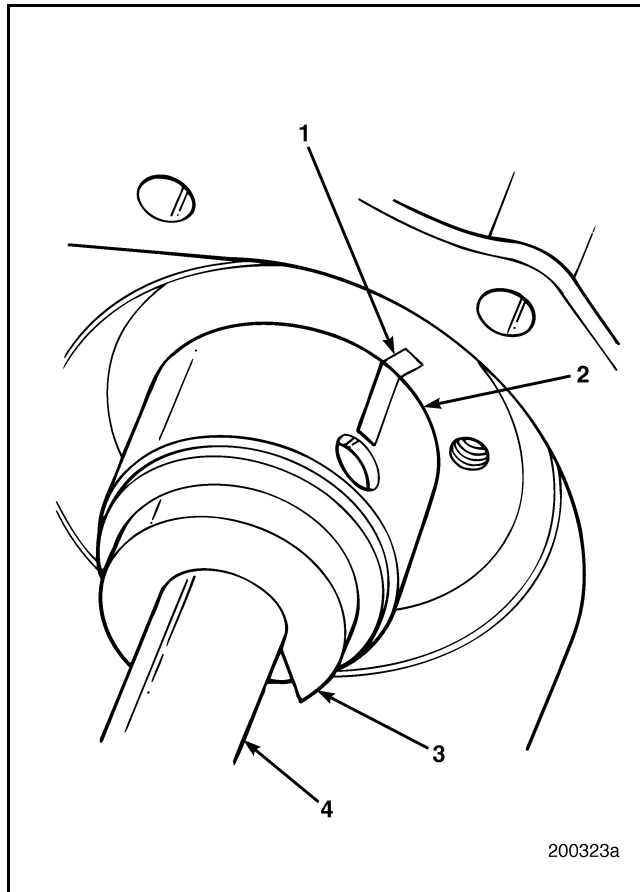

Figure 143 — Auxiliary Shaft Bushing Alignment
2. Using a dark-colored felt-tip marker, mark the block and the bushing with a line (1) to facilitate correct alignment during installation. Refer to Figure 143.
3. Position the replacement bushing (2) against the front face of the block at the front bushing bore. Align the oil hole in the bushing with the hole in the block.